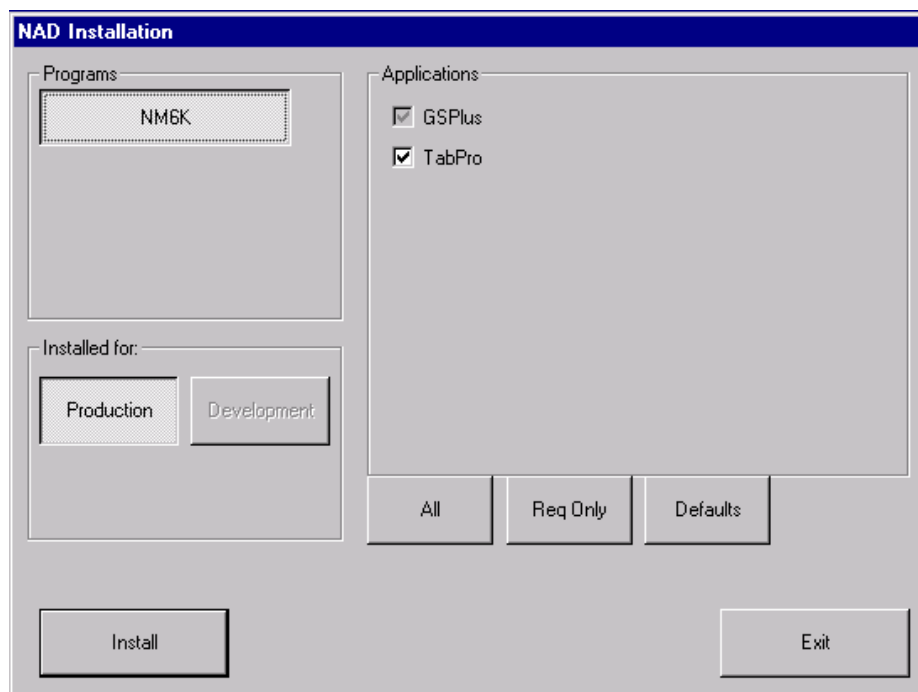

FIGURE 30. NAD Installation Dialog
- 8.61 On the 'NAD Installation' dialog, ensure that 'NM6K' is selected as the program. See Figure 30.